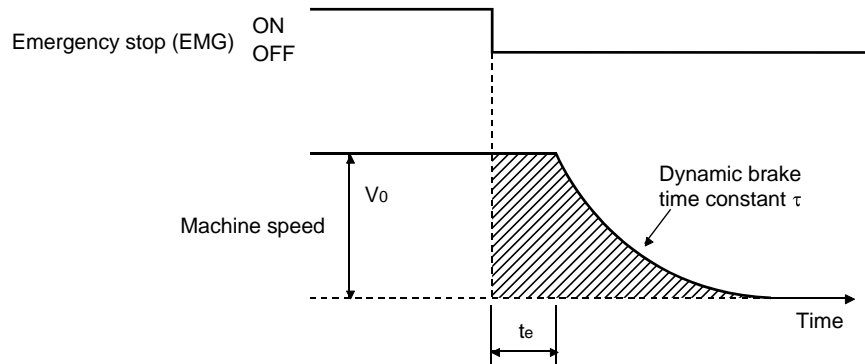

Fig. 11.3 Dynamic brake operation diagram
Fig. 11.3 shows the pattern in which the servo motor comes to a stop when the dynamic brake is operated. Use Equation 11.2 to calculate an approximate coasting distance to a stop. The dynamic brake time constant  $\tau$  varies with the servo motor and machine operation speeds. (Refer to (2) (a), (b) in this section.)